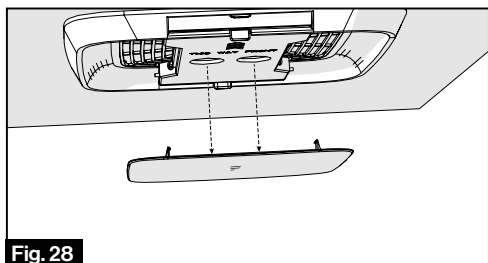

Fig. 28
1. Remove the decoration plate from the air conditioning system by pushing the side tabs to release. (Fig. 28)